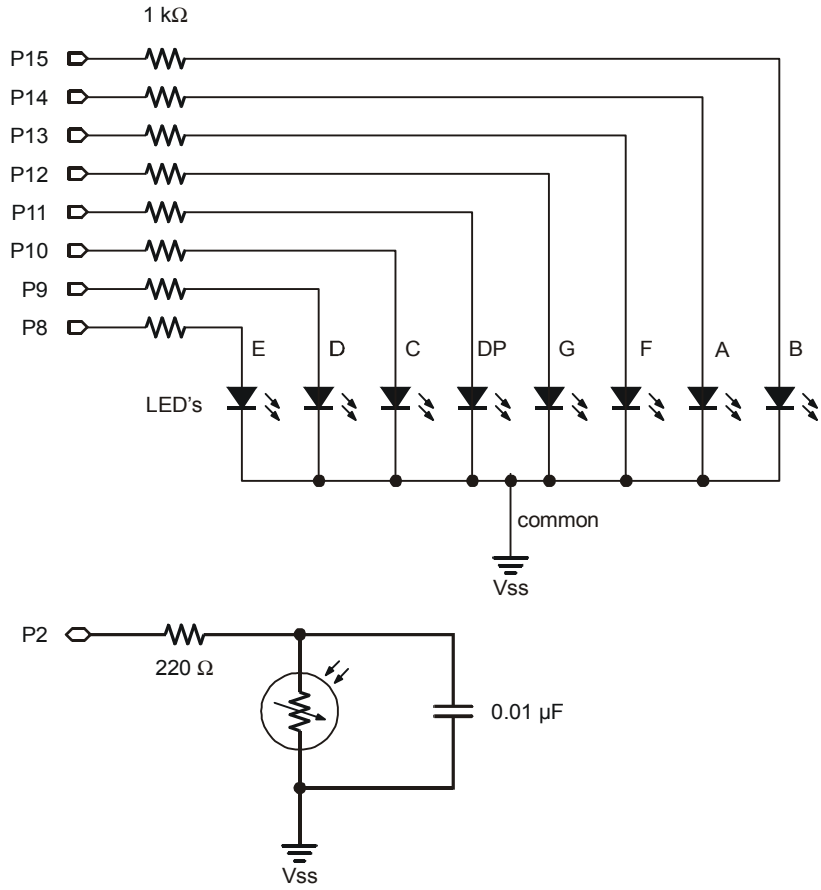
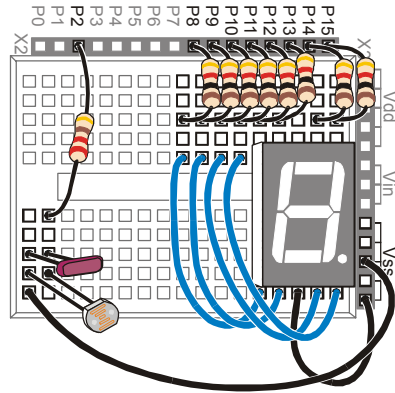

Figure 7-9
Figure 7-10
Figure 7-9 shows the 7-segment LED display and photoresistor circuit schematics that will be used to make the light meter, and Figure 7-10 shows a wiring diagram of the circuit. The photoresistor circuit is the same one you have been using in the last two activities, and the 7-segment LED display circuit is the one that was controlled by the BASIC Stamp in Chapter #6.
for Figure 7-9
- √ Build the circuit shown in Figure 7-9 and Figure 7-10.